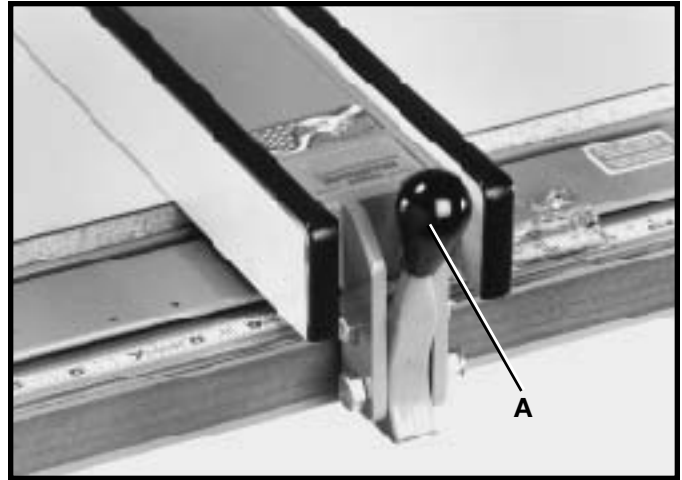
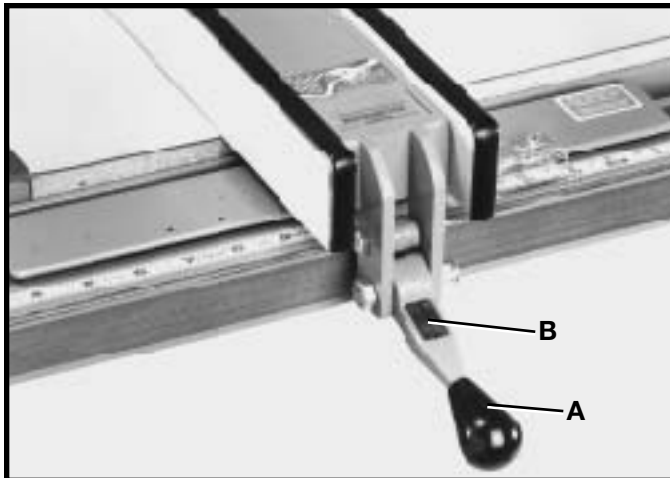

Fig. 59
Fig. 60
1. To move the fence along the guide rail, simply lift up clamp lever (A) as shown in Fig. 59, slide fence to desired position on rail, and push down on clamp lever (A) as shown in Fig. 60, to lock fence in position. **NOTE:** A magnet (E) Fig. 60, is provided to hold clamp handle (A) in the up position when moving the fence.